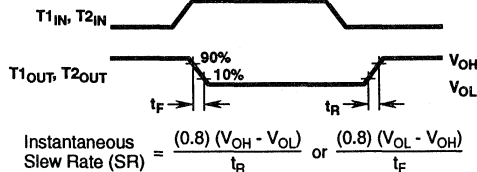

FIGURE 4. SLEW RATE DEFINITION
- See Figure 4 for definition.